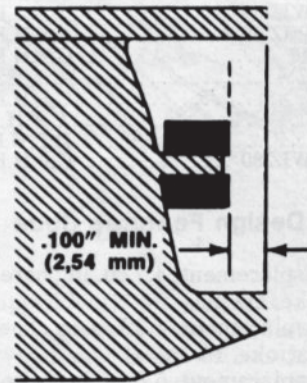
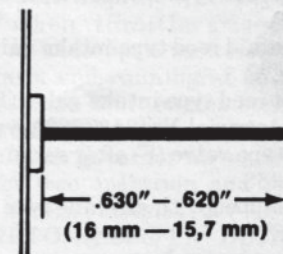
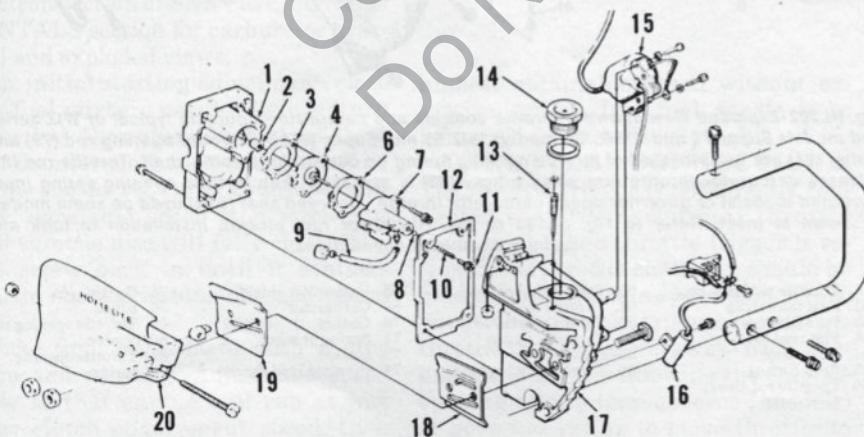
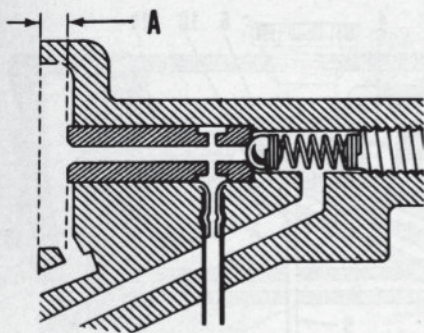

Fig. HL156-Bumper (2—Fig. HL154) and stud must be at least 0.100 inch from edge of crankcase.
Fig. HL157-Plunger length must be 0.620-0.630 inch from collar to end.
Fig. HL154-Exploded view of oil tank and related assemblies.
Fig. HL158—Plunger guide should be 0.125-0.155 inch (A) from end of guide to face of oil tank.
Fig. HL155-Oil is drawn through pick-up (9) by action of crankcase pulses in passage (B) against diaphragm and plunger (4). Plunger (4) forces ball (8) off its seat and oil is forced into outlet passage (C), past adjusting screw (13) and out exhaust port (D) to the chain. Note vent hole (A) which must be kept clear. Refer to Fig. HL154 for parts identification.
Output of early models is adjusted by turning adjusting screw. (13—Fig. HL154). Later models are not equipped with adjusting screw.
Bumper (2—Fig. HL154) must have a minimum clearance of 0.100 between flange face of crankcase (1) and bumper as shown in Fig. HL156. Grind bumper and stud until minimum clearance is obtained. Plunger (4—Fig. HL154) length should be 0.620-0.630 measured from collar to end of plunger as shown in Fig. HL157. Plunger guide in pump body (7—Fig. HL154) should be 0.125-0.155 from face of pump body as shown in Fig. HL158. Plunger guide is not available separately from housing.